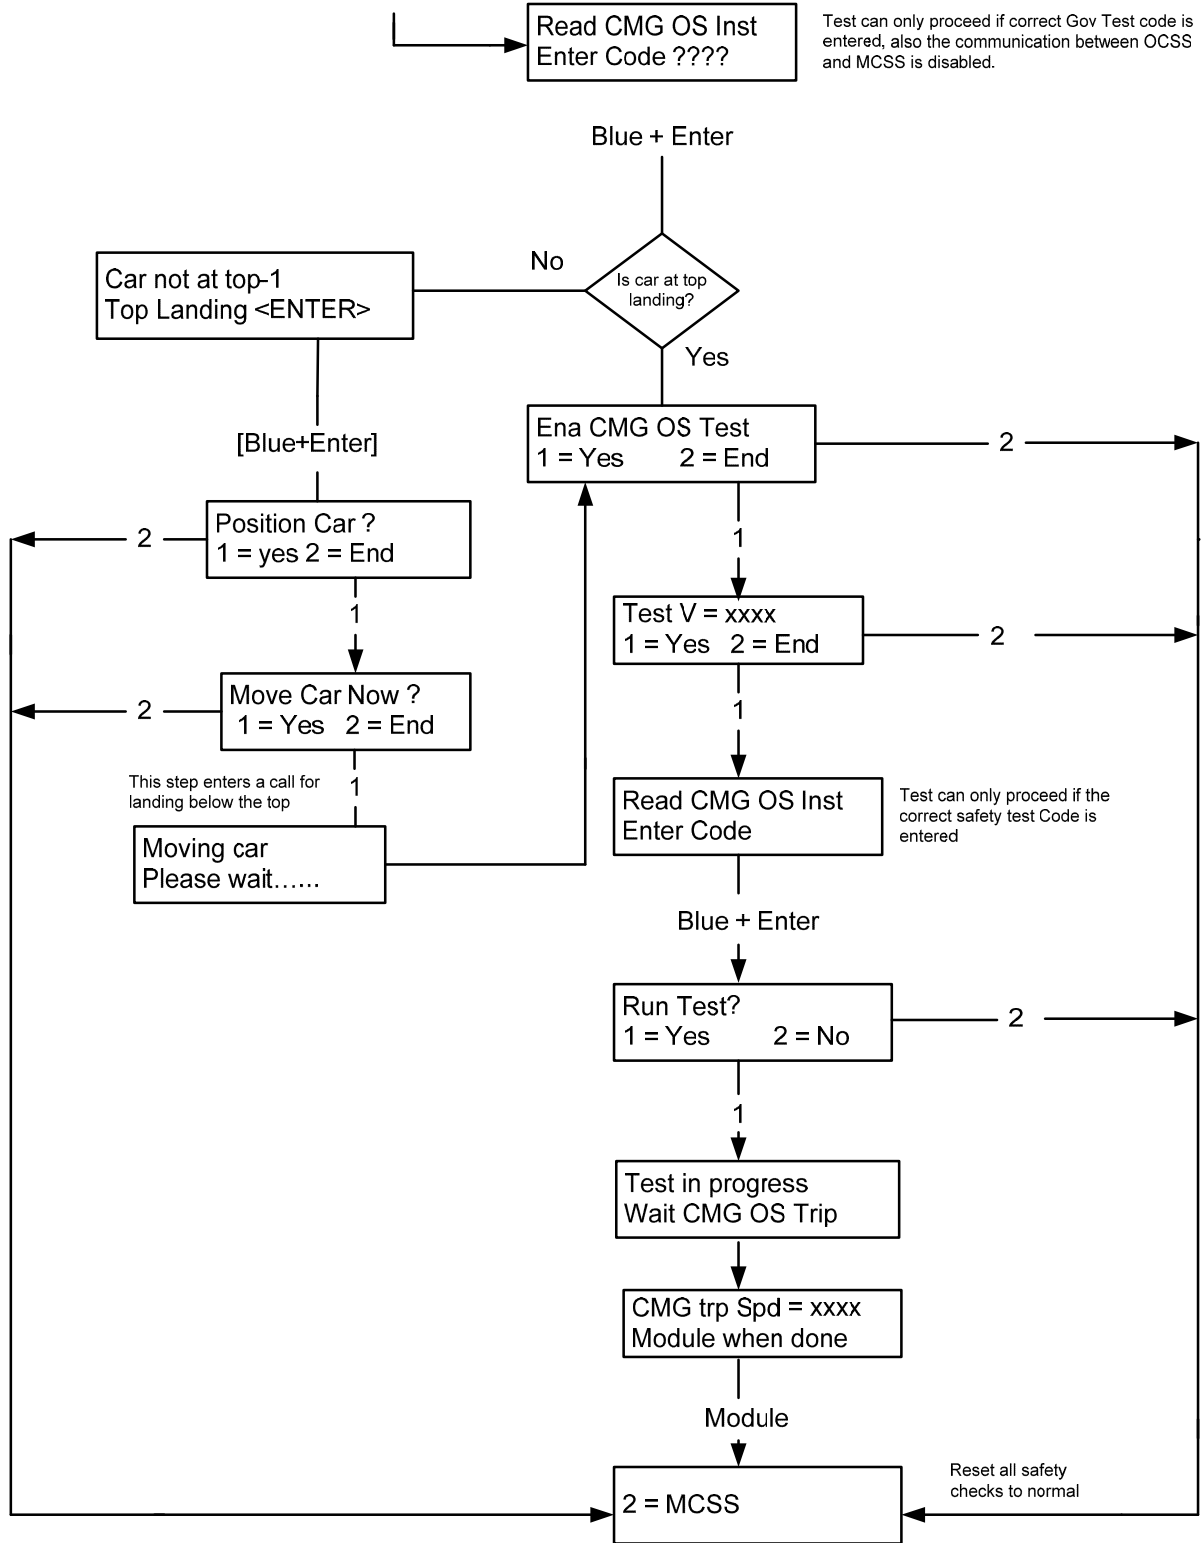

Figure 1: Unintended Car Movement Protection (refer to ASME A17.1-2000 & CSA B44, Section 2.19.2)
1. Please review the flow chart in Figure 1 for a complete sequence map.